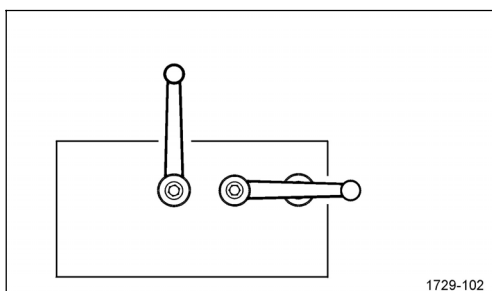

Figure 67
- ☐ Left machine side: Adjust ball valves of the hydraulic block according to Figure 67. Thus the cutting device is locked hydraulically.